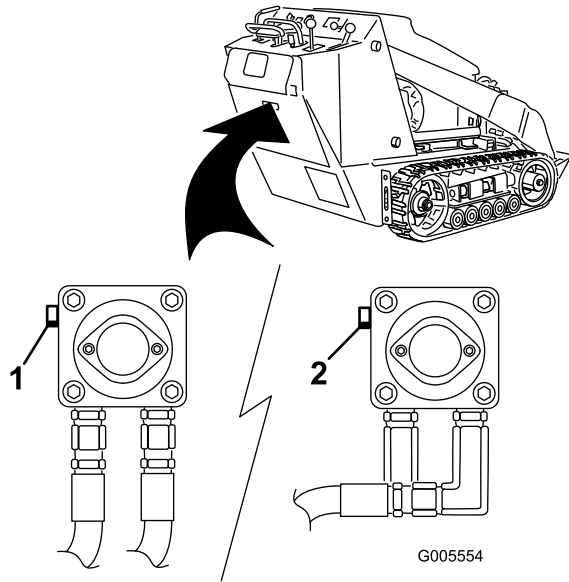

Figure 16
3. Using a wrench, turn the tow valves on the hydraulic pumps twice counterclockwise (Figure 16).